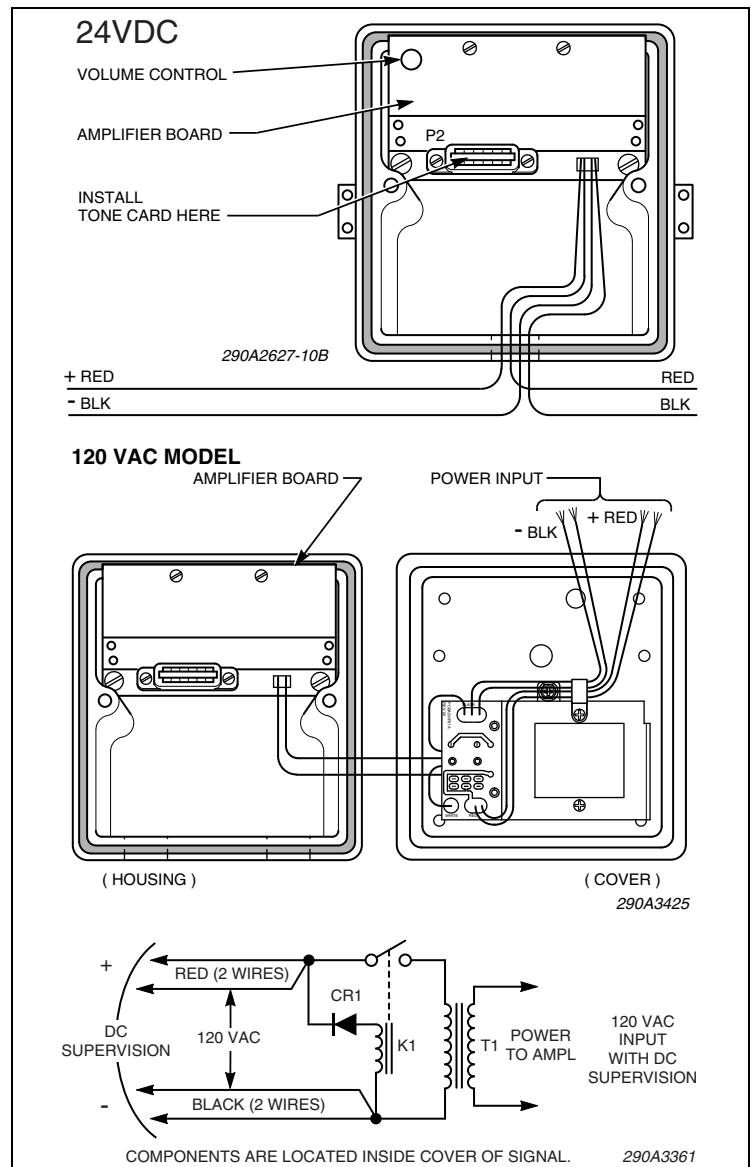

Figure 3. Tone/Connector Card Installation
- Plug the desired tone card into the socket as shown in figure 3.
- Plug the desired PTCK connector card (purchased separately) into the socket as shown in figure 3.
- b. See figures 3 and 4. Perform the procedure in section Tone Card Installation or section PTCK Connector Kit Installation as applicable.
After installation is complete, be sure to test the system to verify that each amplified speaker operates satisfactorily. If it is found that the unit is too loud for its location, an internal volume control can be adjusted. Remove the housing cover and insert a slotted screwdriver with an 1/8" blade into the hole shown in figure 3. Gently turn control to desired loudness. Reinstall the housing cover.